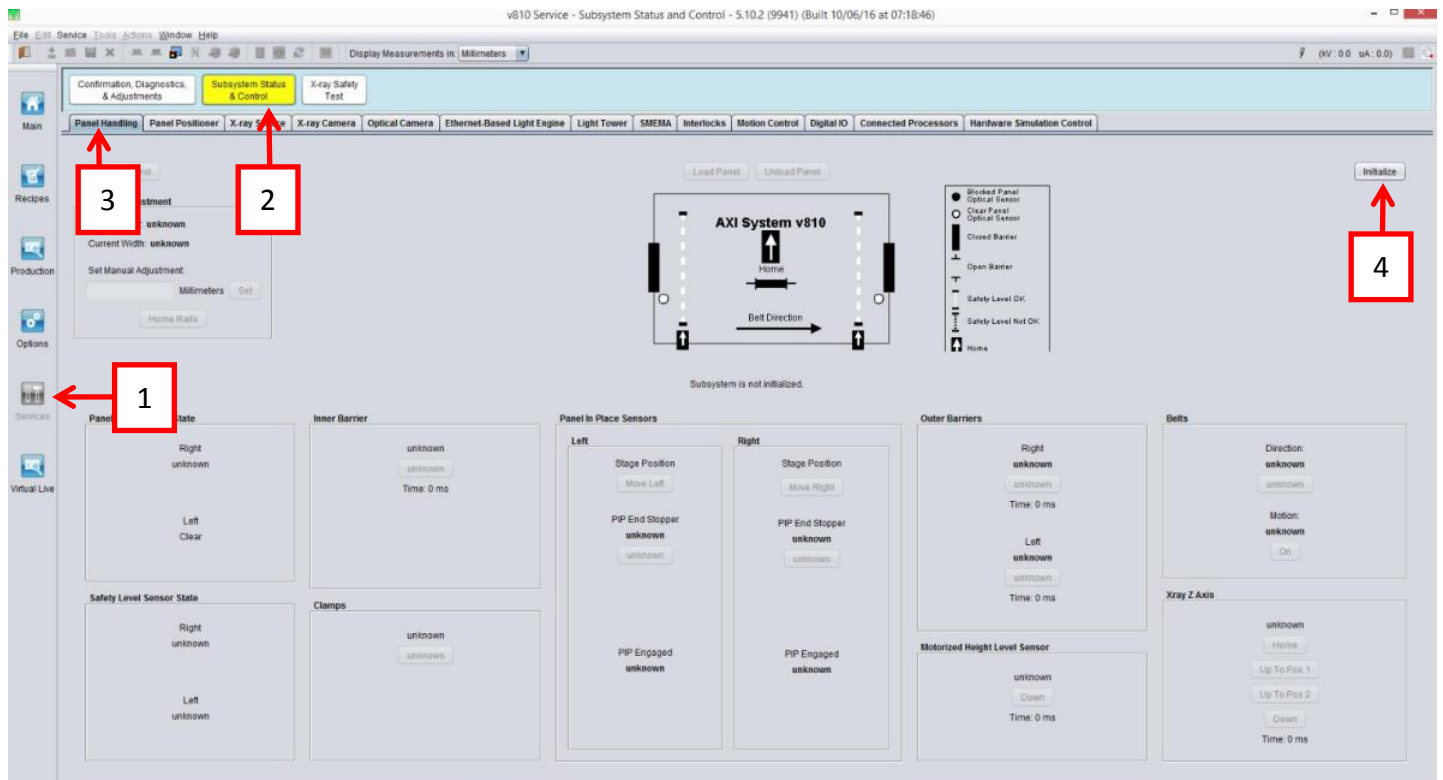

Figure 4 Panel Handling (Initialization)
5. At V810 GUI, go to Services->Subsystem Status & Control->Panel Handling and click “Initialize” as shown in Figure 4